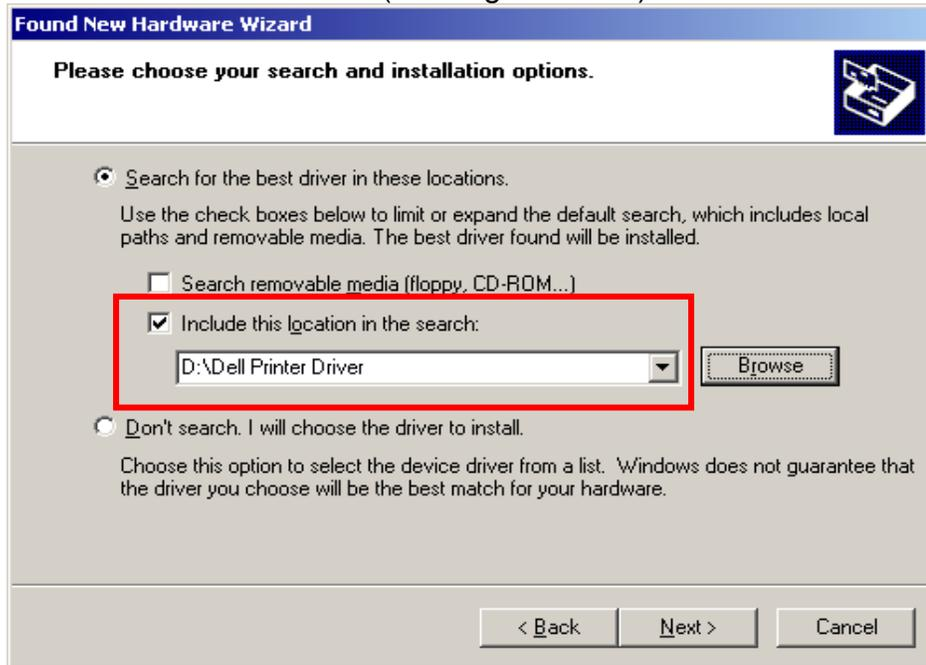

Figure 10-15 - Search for Driver in Specific Locations
- 6) Select **Search for the best driver in these locations**. Only select the **Include this location in the search**: check box and click **Browse** to navigate to the folder on the USB storage device where the printer drivers are stored. Click **Next**. (See Figure 10-15)